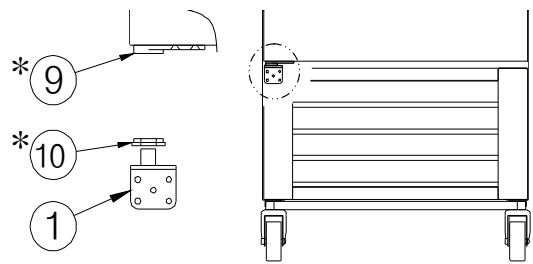

Figure 2.
STEP3. Reinstall the Door (figure 2)